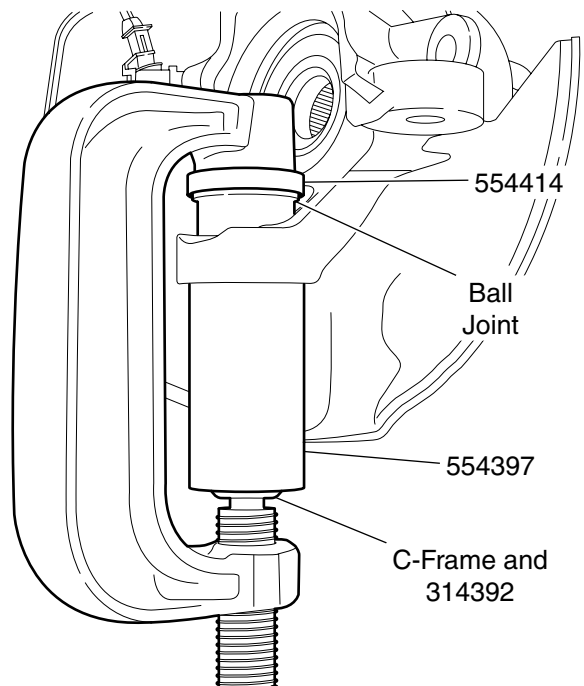

Figure 2. Ball Joint Installation
3. Position 554414 and 554397 on the ball joint as shown in Figure 2.